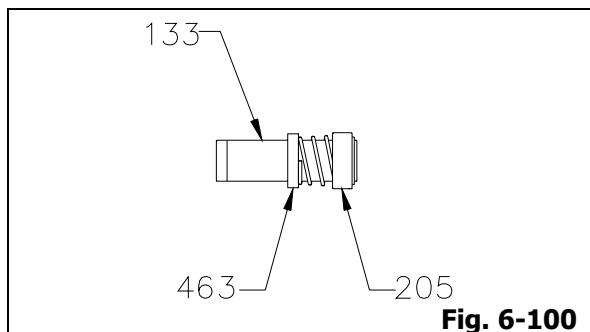

Fig. 6-100
5. Install abutment ring (463) onto shaft sleeve (133) until abutment ring (463) reach the abutment ring location marking which has been made on shaft sleeve (133) during disassembly, and install two (2) abutment ring jam nuts into abutment ring (463).
6. Coat shaft sleeve (133) surface with oil, slide the rotary portion of atmospheric end mechanical seal (205) carefully onto shaft sleeve (133) by hand until the end of the mechanical seal (205) is fully seated on abutment ring (463) (Fig. 6-100).